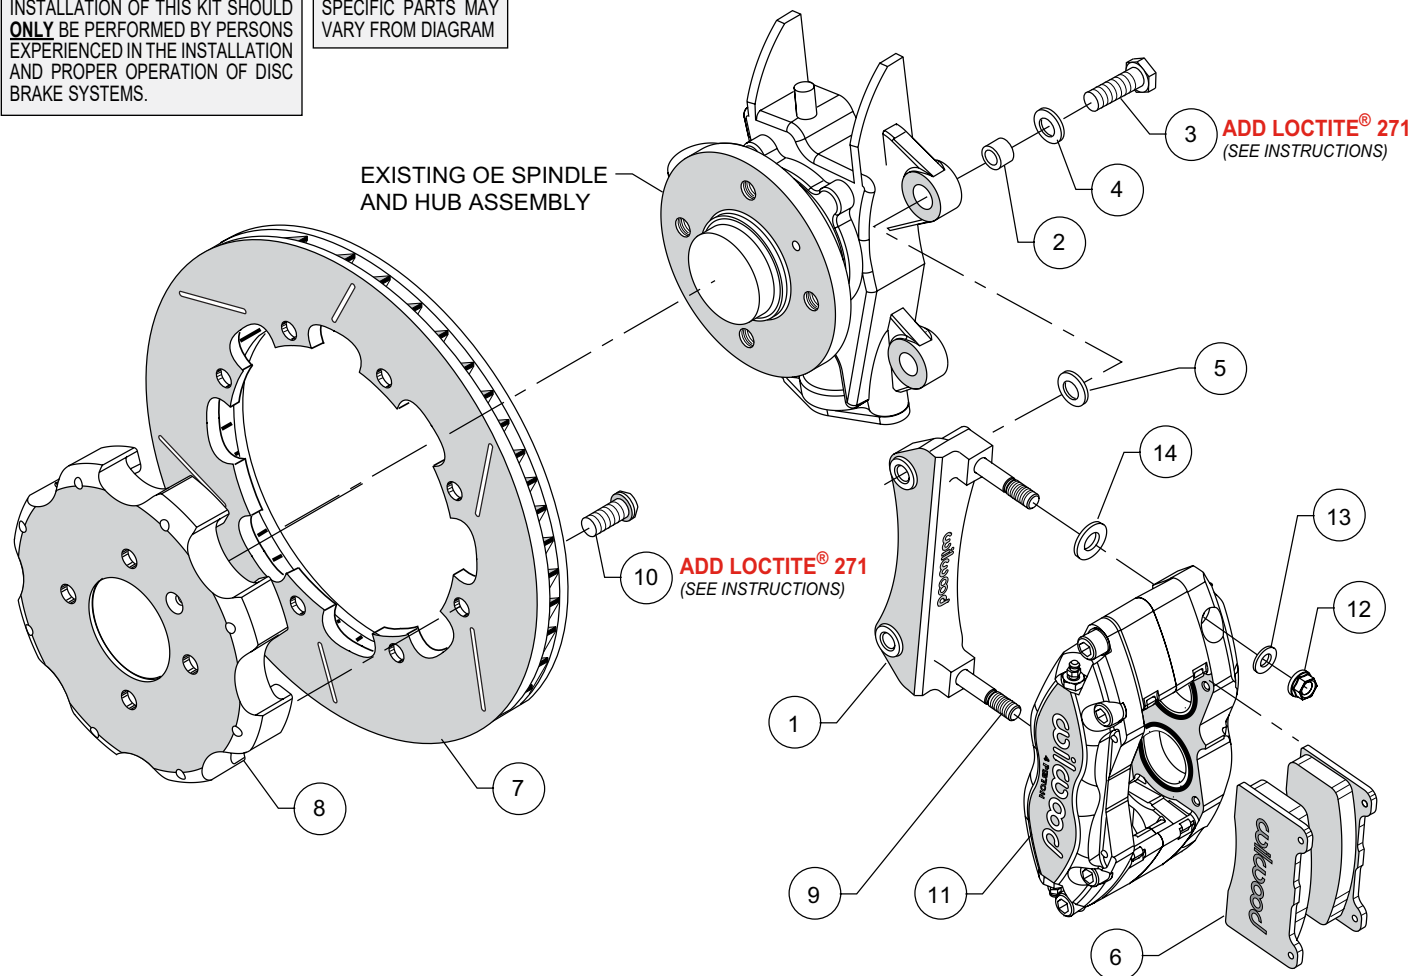

Figure 1. Typical Installation Configuration
- Insert one sleeve (2) each into the holes on the top and bottom of the spindle “ears” where the OEM caliper bracket was removed. The caliper mounting bracket assembly (1) should be installed first with clean, dry threads on the mounting bolts. Install the bracket from the rear side of the spindle by sliding bolts (3) through flat washer (4). Place shim washer (5) between the bracket (1) and the spindle (see Figure 1). The bracket must tighten squarely against the side of the spindle body. Inspect for interference from casting irregularities, machining ridges, burrs, etc. Use one thin shim (5) between the bracket and spindle during initial trial fitting.
- With the larger I.D. side of the rotor (7) facing away from the hat (8), attach rotor (7) to hat (8) using bolts (10) as shown in Figure 1. Remove bolts (10) on at a time, apply red *Loctite*® 271 to the bolt threads and torque to 25 ft-lb using a criss-cross pattern.
- NOTE:** *Please reference the caution statement at the beginning of the assembly instructions.* Install one shim (14) over each pre-installed stud (9) on the radial mount bracket (1). Slide the caliper (11) in place over the studs and rotors and install the washer (13) and lock nut (12) to hold the caliper in place. Snug the lock nuts (12) and check that the rotor (7) is centered in the caliper (11). Add or subtract .016” shims (5) as necessary between the bracket (1) and the spindle to center the caliper (11).
- Remove the caliper quick-clip pad retainer from the caliper. Slide the brake pads (6) into place. They should install easily without interference. Check that the outside radius of the brake pad is aligned with the outside diameter radius of the rotor face. Add or subtract shims (14) between the caliper and mount bracket to gain the proper alignment. Reinstall the quick-clip pad retainer.
- Once all clearances have been checked, remove the wheel, caliper, hat, and rotor from the spindle and hub. Secure the caliper mounting bracket (1) to the spindle with bolt (3) using red *Loctite*® 271. Torque the bolts to 60 ft-lbs. Reinstall the hat and rotor assembly and again use several wheel bolts to hold it in place. Reinstall the caliper and torque the caliper nuts (12) to 30-35 ft-lb.